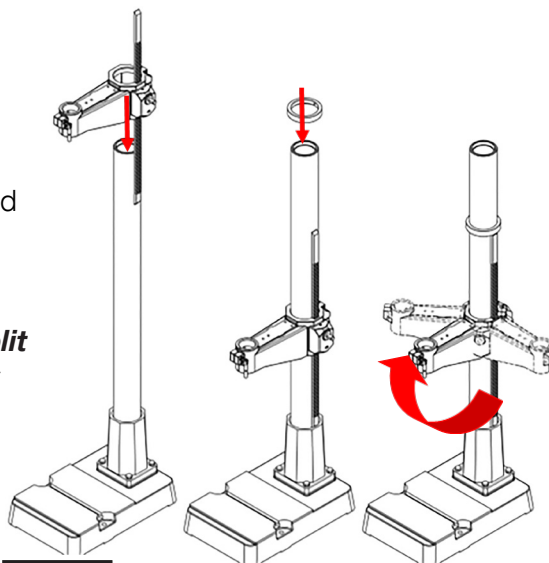

FIG. 4.5
3. Place the rack inside of the table support assembly, mesh it together with the pinion, and slide the table support/rack assembly over the column. (Fig. 4.5)